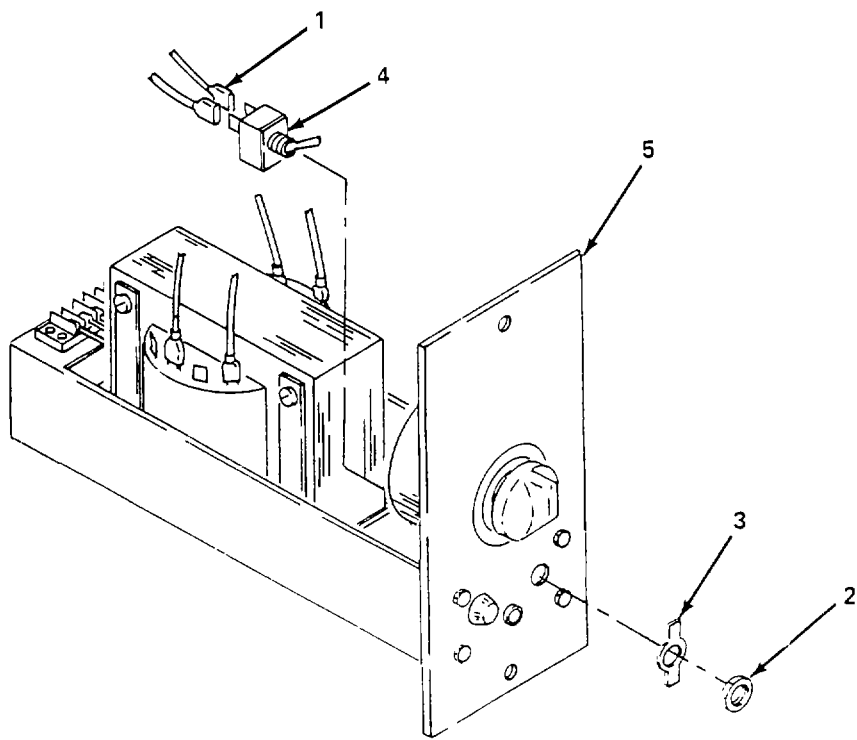

Figure 5-23. Single Light Power Supply (Outer Lock) Switch, Replace.
- (1) Replace switch. (figure 5-23)
- (a) Tag and disconnect electrical leads (1).
- (b) Remove nut (2) and plate (3) and remove switch (4).
- (c) Install switch (4) in cover (5) and secure with plate (3) and nut (2).
- (d) Connect electrical leads (1).